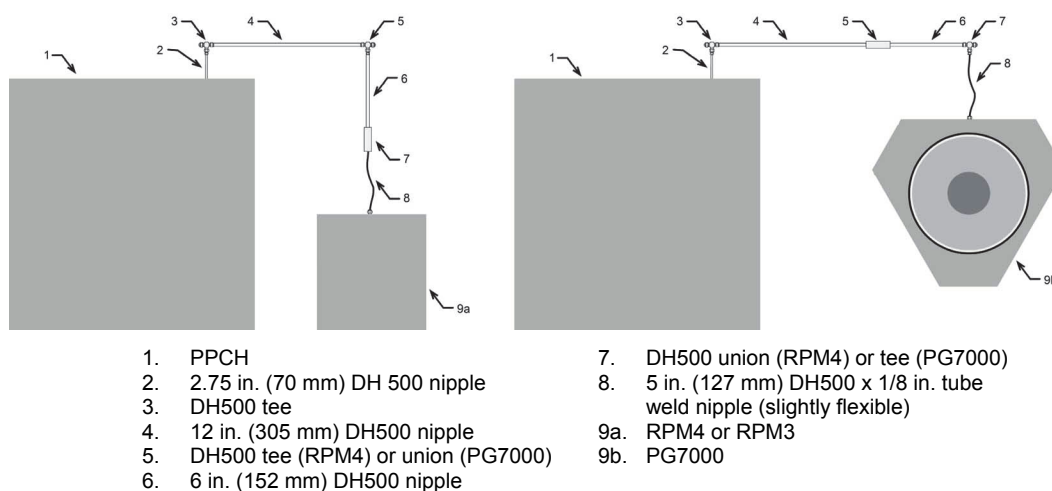

Figure 6. Connecting PPCH to an RPM4 or PG7302 using the standard PPCH interconnection accessories
- 1 Using tubing of appropriate pressure rating and a tee fitting, connect the RPM4 Q-RPT **TEST(+)** port to the PPCH **TEST** port (see Figure 6 for instructions on making this connection using the standard interconnection accessories supplied with the PPCH). The third leg of the tee is for the connection to the device or system under test.
- ❶ Using tubing of appropriate pressure rating and a tee fitting, connect the PG7302 **TEST** port to the PPCH **TEST** port (see Figure 6 for instructions on making this connection using the standard interconnections accessories supplied with the PPCH). The third leg of the tee is for the connection to the device or system under test.
- ❷ Using a standard pin-to-pin DB-9M to DB-9F RS232 cable, connect COM1 of the PPCH to COM3 of the PG7302.
- ❸ See the PG7000 Operation and Maintenance Manual for information on operating the PG7302 with an automated pressure controlling device.